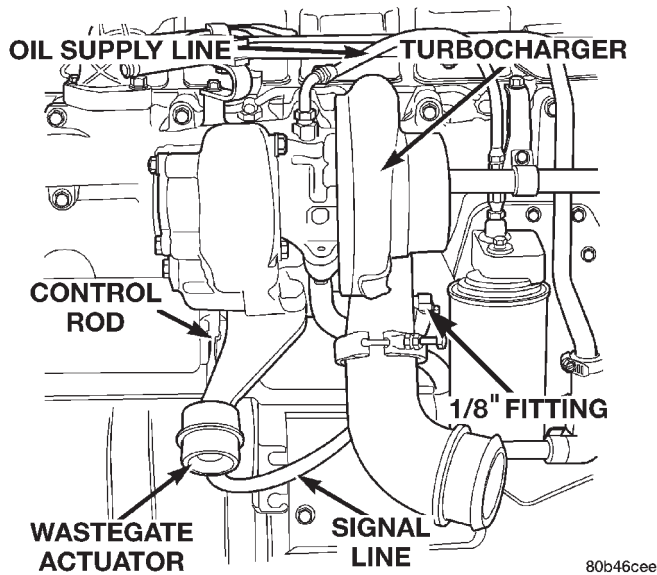

Fig. 19 Boost Pressure Test at Turbocharger
(3) Loosen hose clamp and disconnect rubber signal line (Fig. 19) from 1/8" brass fitting at front of turbocharger.
(4) Remove 1/8" brass fitting (Fig. 19) from turbocharger. Temporarily replace this fitting with a 1/8" "T" fitting to adapt to pressure gauge.
(5) Reattach signal line to temporary "T".
(6) Attach first pressure gauge to intake manifold fitting.
(7) Attach second pressure gauge to "T" fitting at turbocharger.